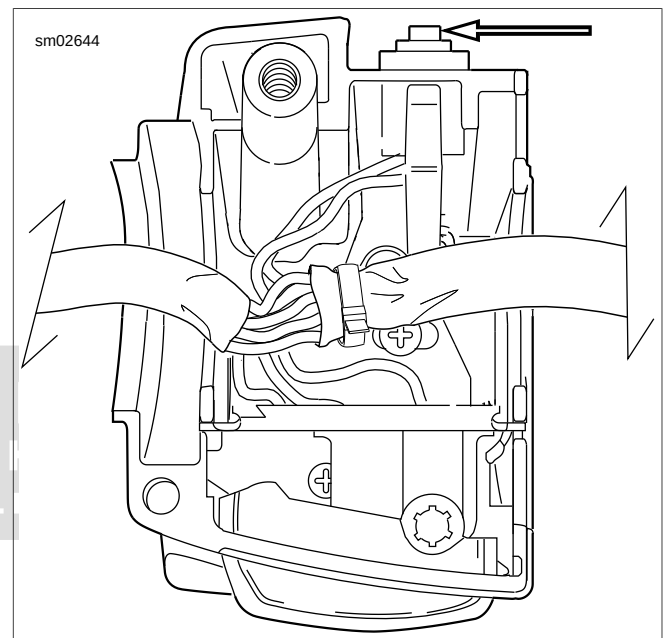

Figure 7-66. Clutch Interlock Switch
1. See Figure 7-66. Cut wires 6.4 mm (0.25 in) from old switch. Discard switch assembly.